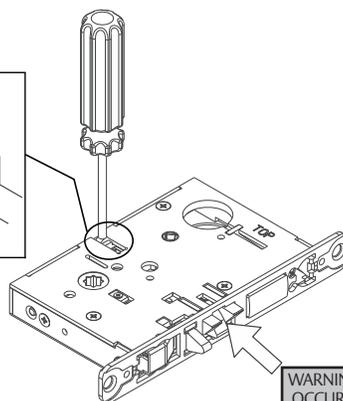

Figure 5
4. Push in latch while holding screwdriver behind latch tail. (Figure 5)